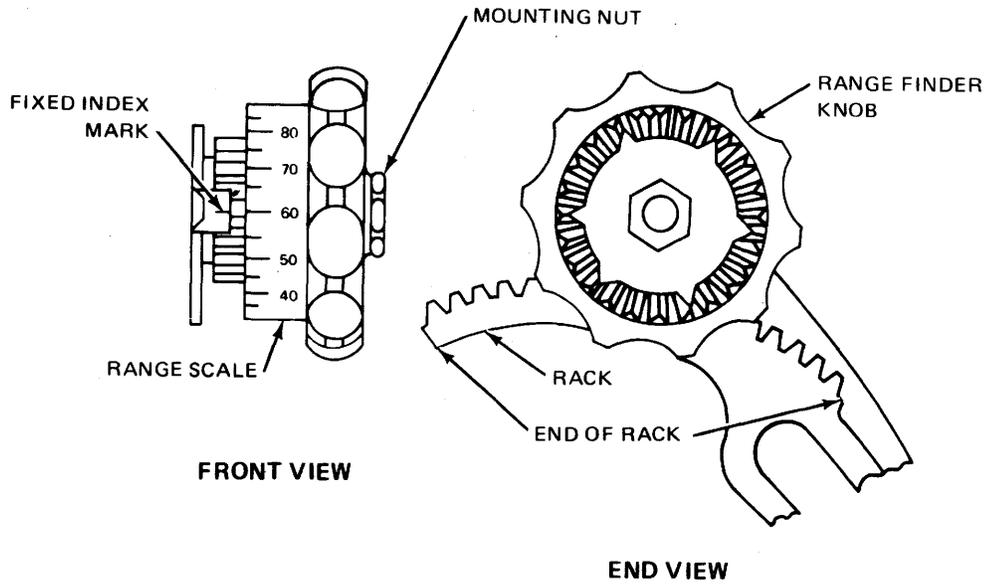

Figure 6-11. Rangefinder Knob Alignment.
a. Push rangefinder knob toward the fixed index mark to engage teeth, and rotate knob to one end of rack (see figure 6-11).
6-14. Keyboard Rangefinder Knob Alignment. To align the keyboard rangefinder knob, perform turn-on procedure (paragraph 6-6), see figure 6-11, and proceed as follows:
6-15. Keyboard Rangefinder Mechanism Adjustment. To adjust keyboard rangefinder mechanism, perform turn-on procedure (paragraph 6-6), see figure 6-11, and proceed as follows:
a. Type out a complete line of characters R and Y alternately, and adjust rangefinder knob clockwise until error is observed. Record range scale value (see figure 6-11).